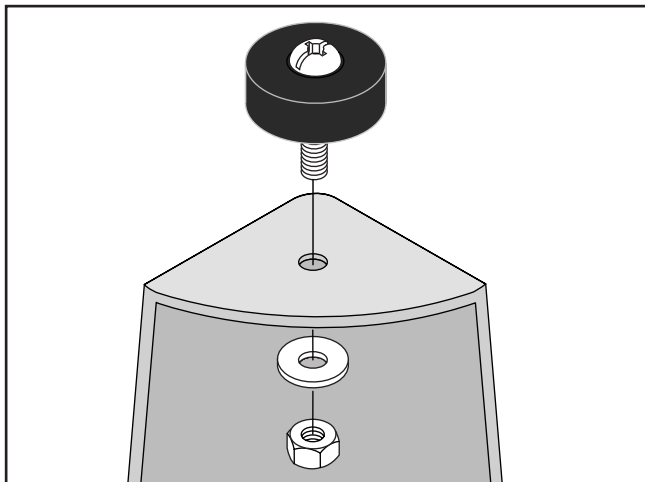

Figure 10. Rubber foot installation.
2. Secure each rubber foot to the stand legs with flat washers and hex nuts as shown in **Figure 10**.